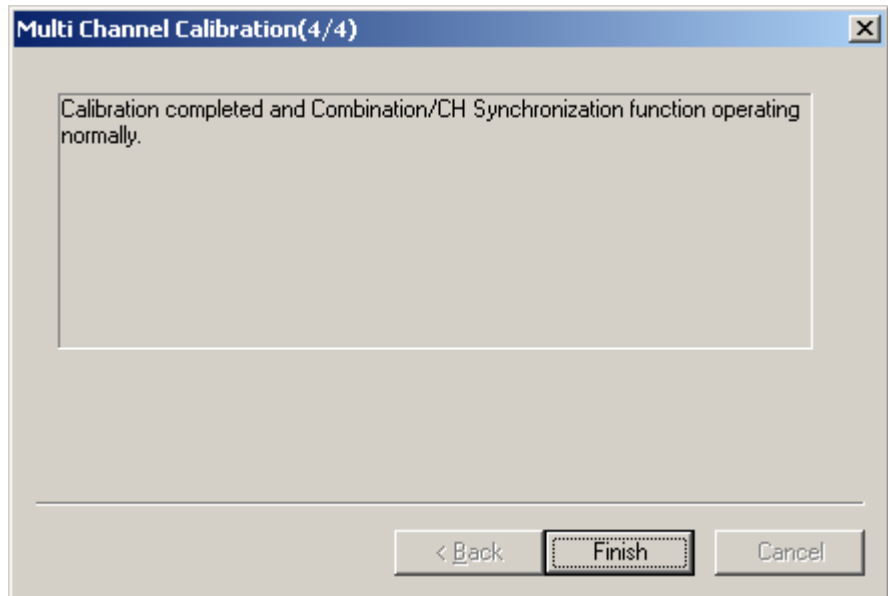

Figure 5.8-6 Multi Channel Calibration dialog box 4
When the dialog box shown in Figure 5.8-6 appears, click **Finish** to complete the calibration.
3. When the Multi Channel Calibration Requirement Message appears as shown in Figure 5.8-1, perform the calibration according to the description of Figure 5.8-1 through Figure 5.8-6.
4. When the Multi Channel Calibration dialog box appears as shown in Figure 5.8-1, perform the calibration according to the description of Figure 5.8-1 through Figure 5.8-6.